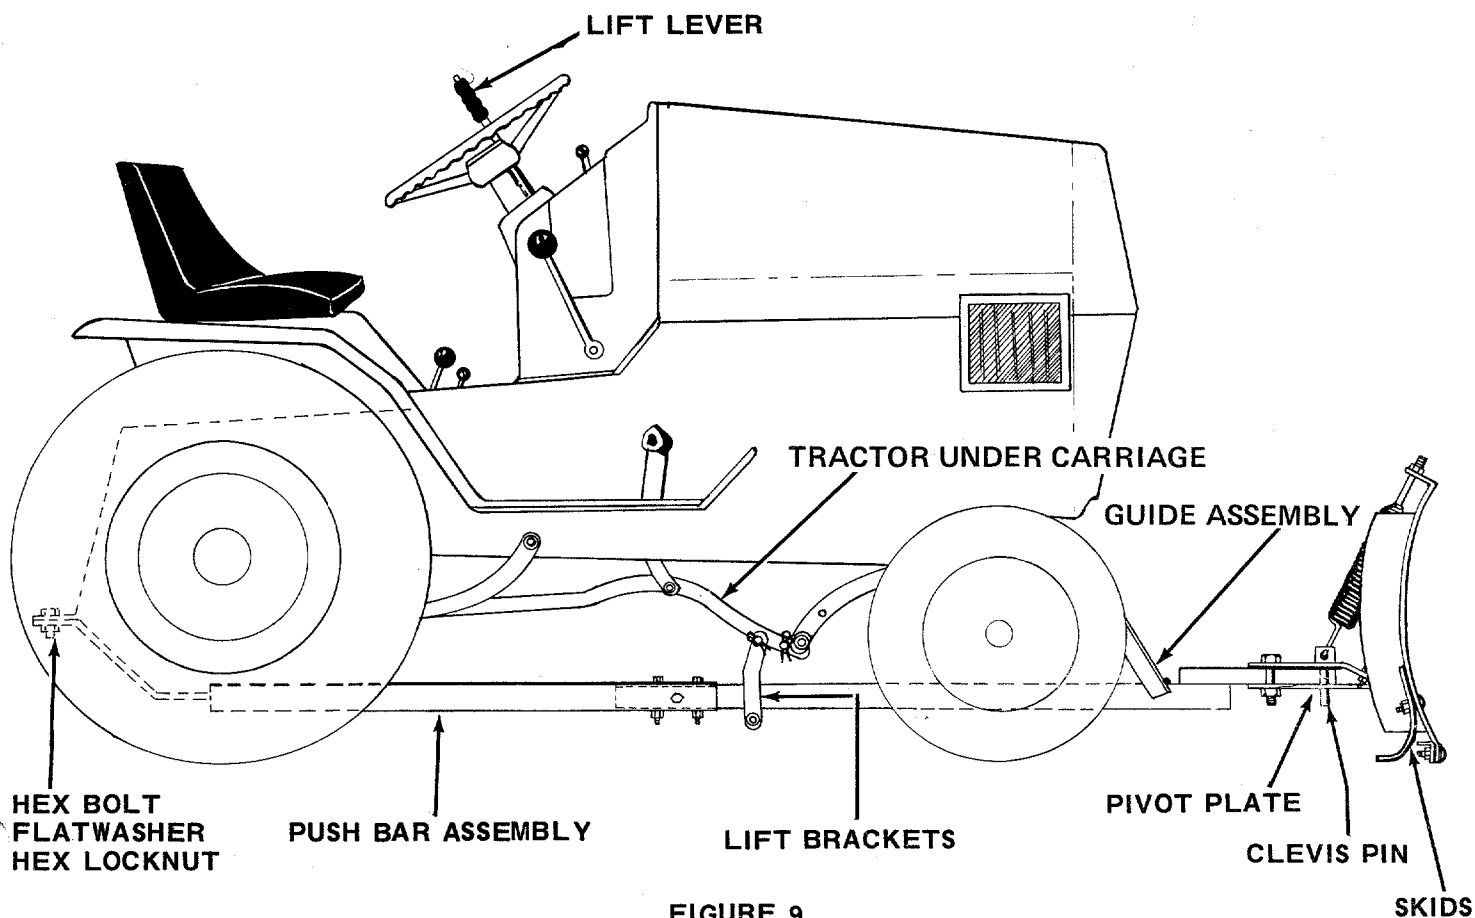
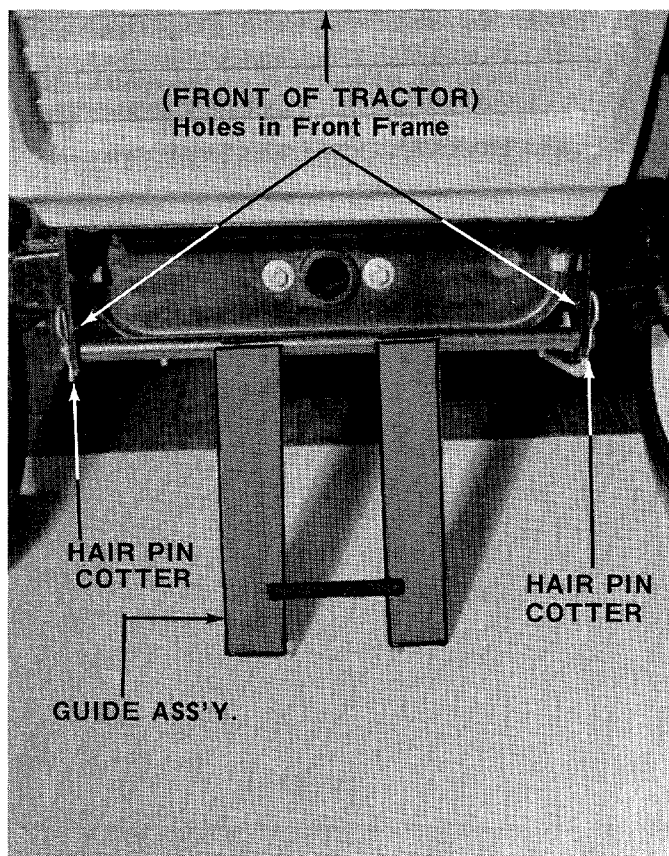

FIGURE 9
FIGURE 10
(SEE FIGURE 9)
6. Place the guide assembly in position on the front of the tractor. See figure 10.
7. Secure in place with two hair pin cotters. See figure 10.
Figure 10 was photographed with the blade removed for clarity. See figure 9 for guide assembly on blade.